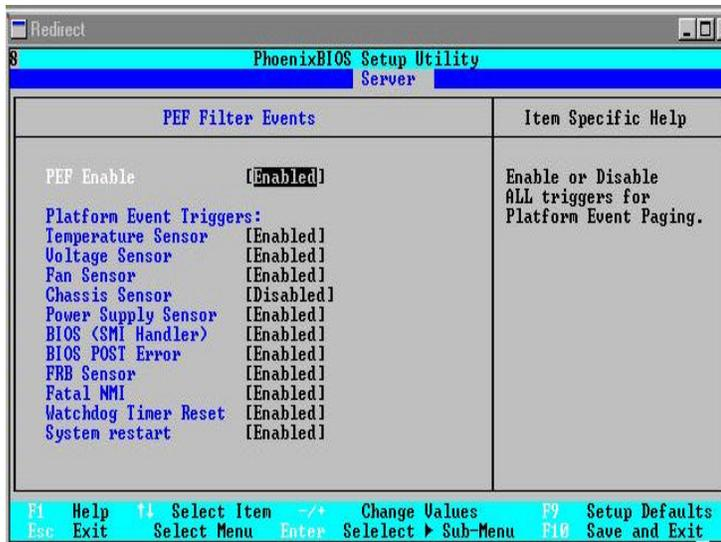

Figure 3: PEF Filter Events Screen
9. To configure which events you want to be paged on, use the arrow keys to move back up the screen, select the “**PEF Filter Events**” and press <ENTER>. See Figure 3.